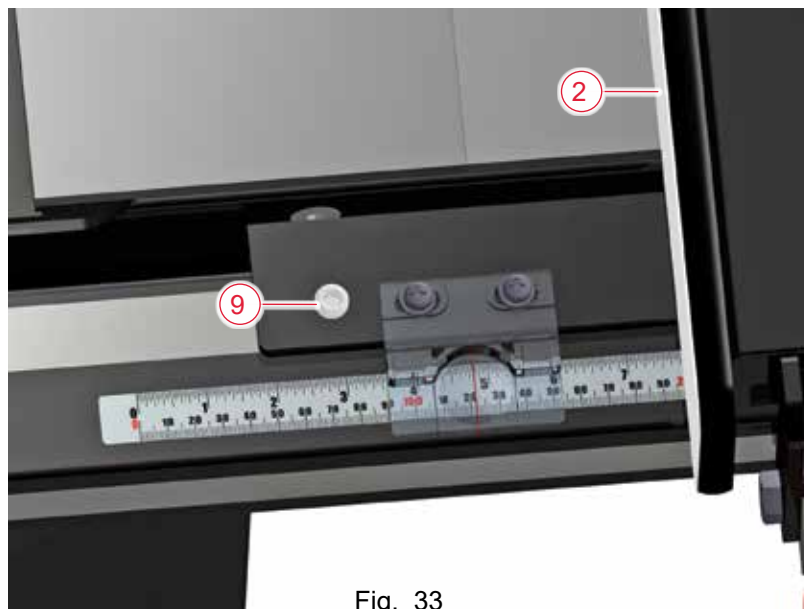

Fig. 33
The next step is to adjust the face plates (2) to be perpendicular to the table top. The angle between the face plates and the table is set by the two plastic leveling screws (9) on top of the glide bracket (Fig. 33).